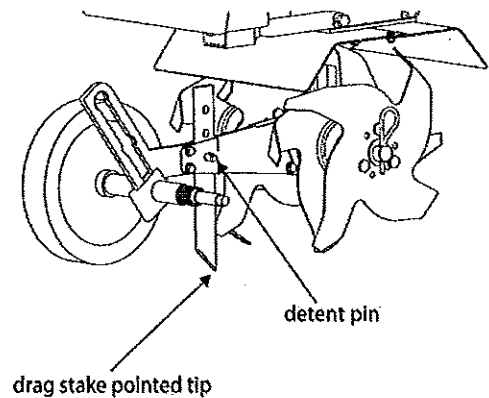

Figure 2
4. The drag stake is shipped with point facing upwards. Before using, remove detent pin and turn the drag stake around so the point is directed in the downward position facing towards the tines. Re-insert detent pin. **SEE FIGURE 2.**